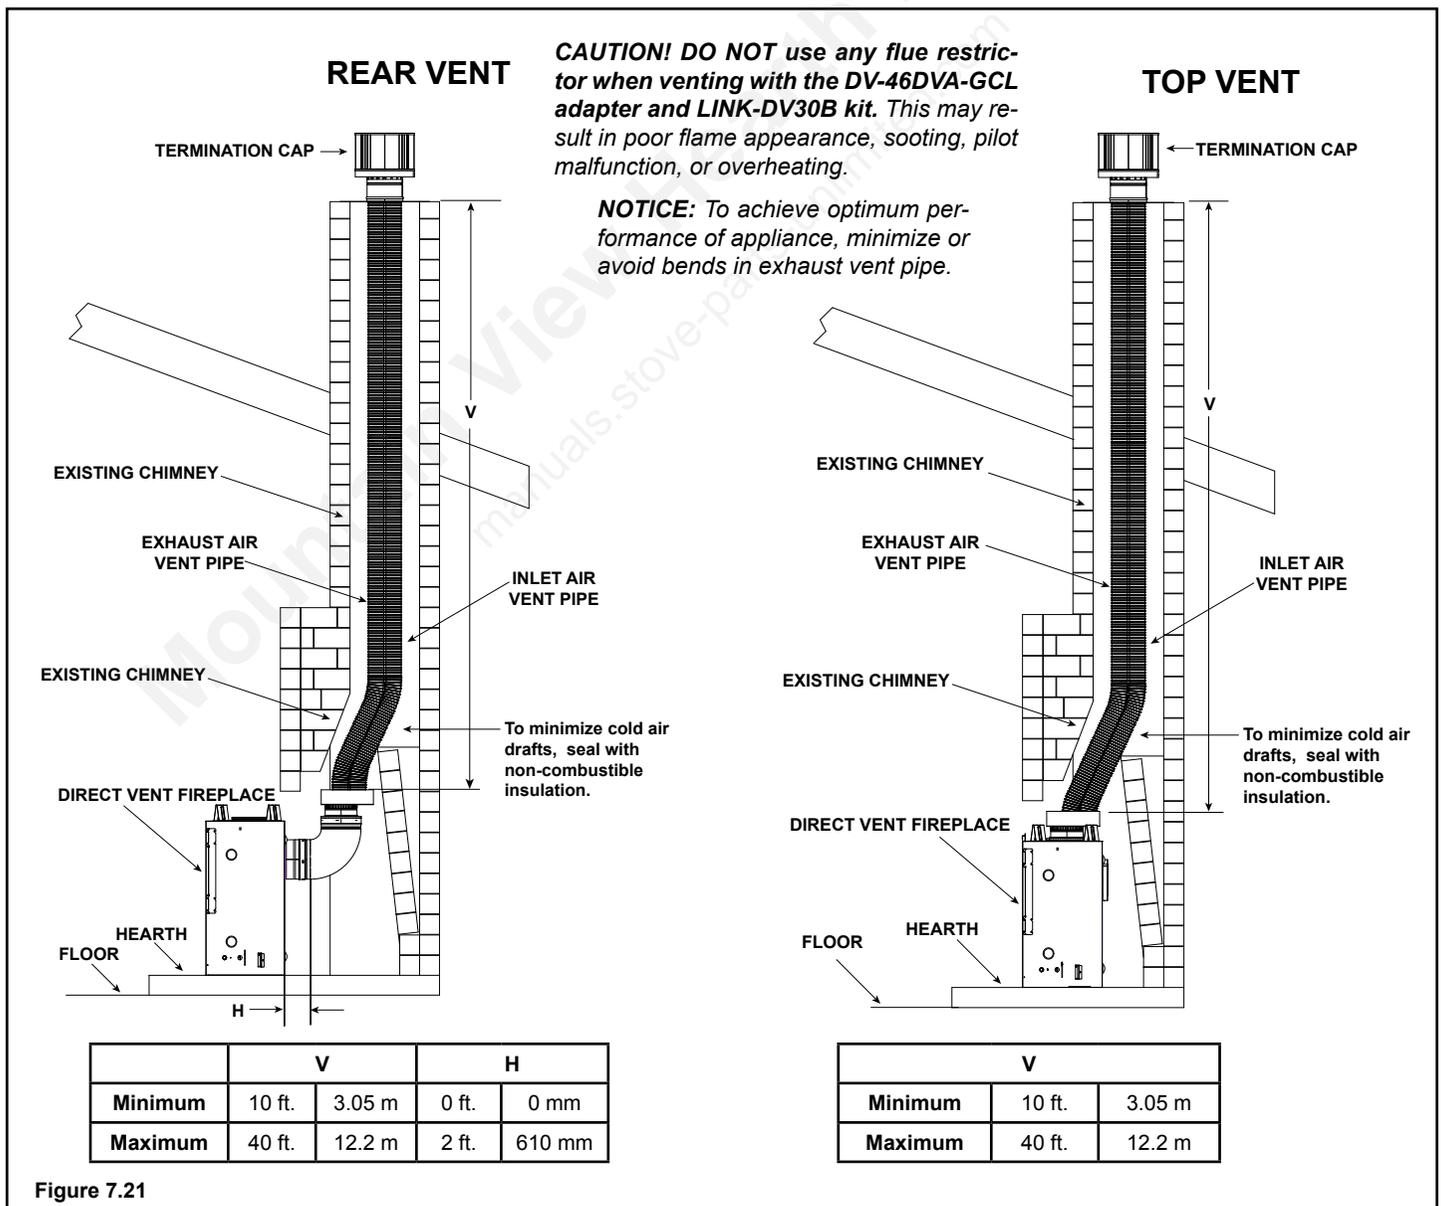

Figure 7.21
- Remove top seal cap and insulation if equipped. See Section 9, "Appliance Setup." Attach the DV-46DVA-GCL adapter to the appliance starting collar with 3-1/2 in. self-tapping screws. See Figure 7.21.
- Remove the rear seal cap and insulation if equipped. Connect the DVP-2SL adapter to the vertically positioned elbow. Follow installation instructions included with DVP-2SL kit. Secure DV-46DVA-GCL adapter to DVP-2SL with 3-1/2 in. self-tapping screws. See Figure 7.21.